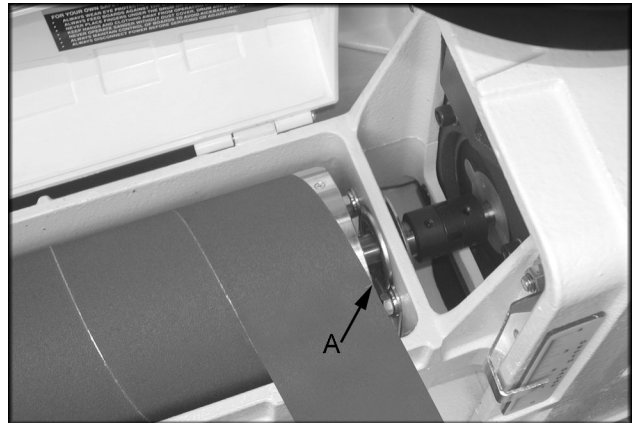

Fig. 10
6. Mark trailing end of strip where it crosses the inboard end of drum (A, Fig. 10).